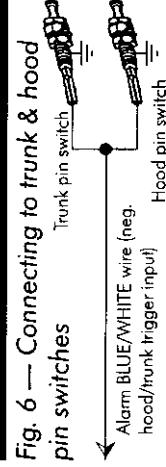

Fig. 6 — Connecting to trunk & hood pin switches
B. If the vehicle has no existing hood or trunk switches — Mount a pin switch in both the hood and trunk. Connect as shown in fig. 6.